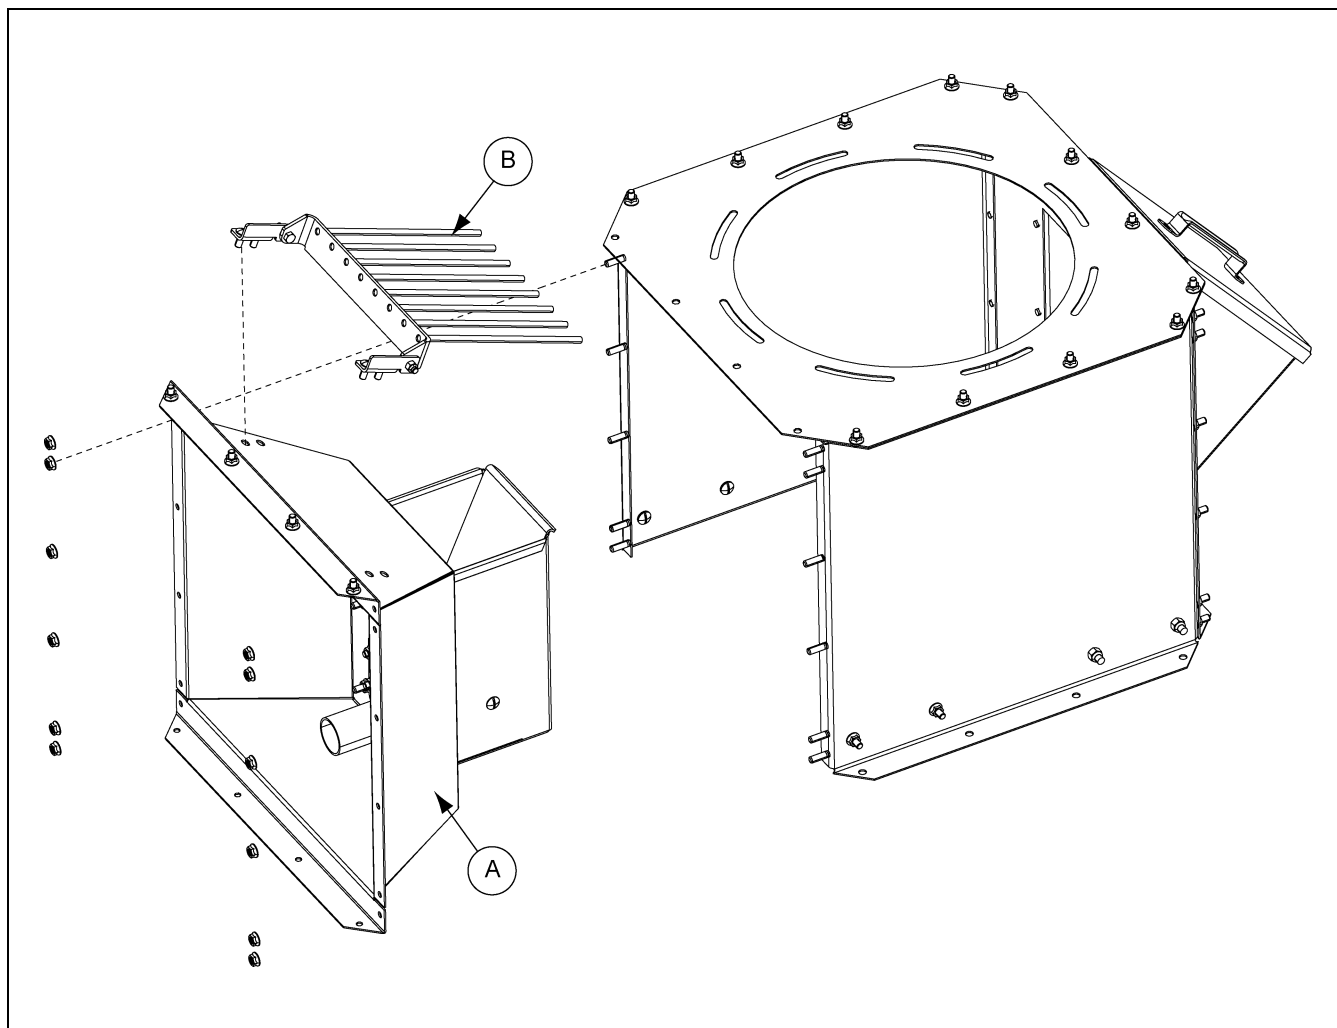

Figure 2C *Installing New Front Panel*
4. Re-install the finger guard (B) and moisture sensor to the new front panel assembly (A).
5. Install the new front panel (A) to the moisture sampler assembly. (See Figure 2C.)